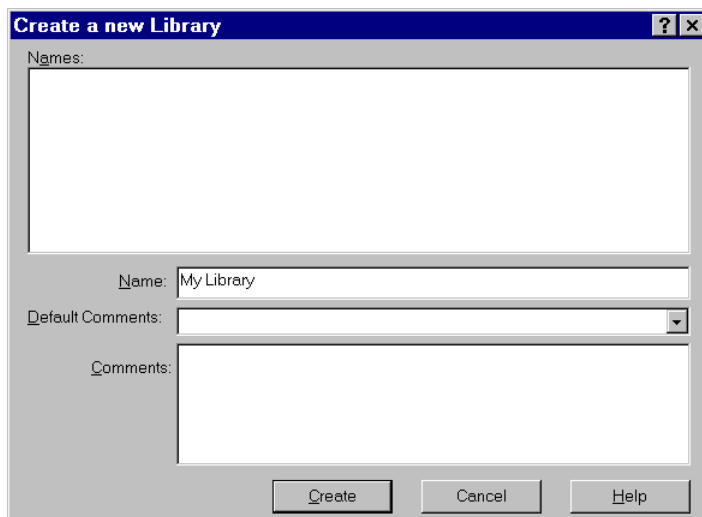

Figure 4-6 Create a New Library Dialog Box
6. Select **Library > New Library** to open the Create a new Library dialog box (Figure 4-6).